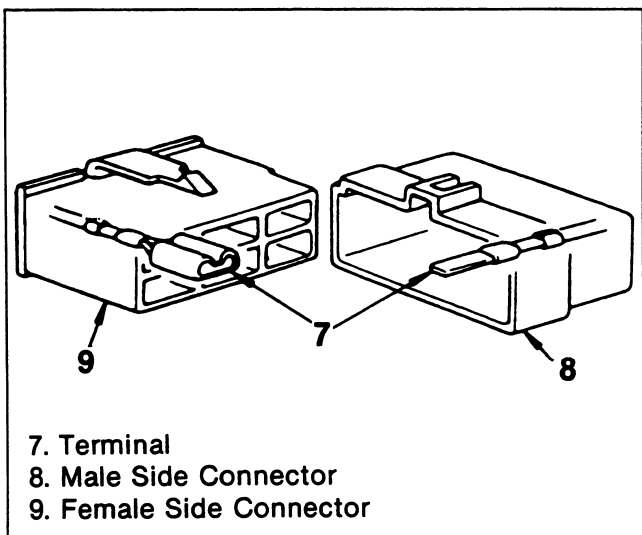

Figure 31. Connector Terminal
The connector terminal shape (7) determines whether the connector is male (8) or female (9) (figure 31).
The connector housing configuration does not determine whether a connector is male or female (figure 31).